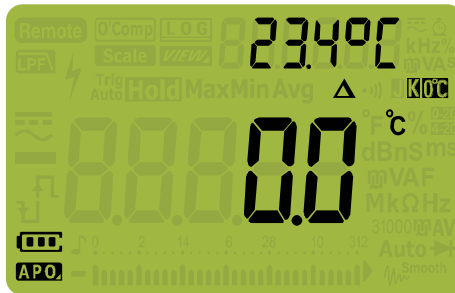

Figure 2-29 Temperature measurement without ambient compensation
- 1 To measure temperature, position the rotary switch to \rightarrow and press  once. Set up your multimeter as shown in Figure 2-29.